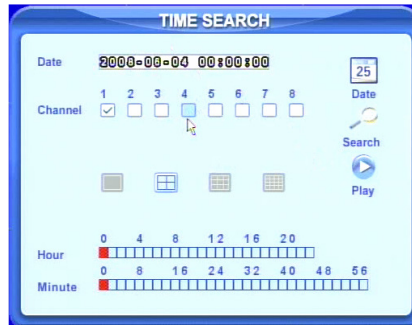

Fig 3.15 Time Search
STEP2 Choose a day to time search interface, as shown in Fig 3.15 Time Search.